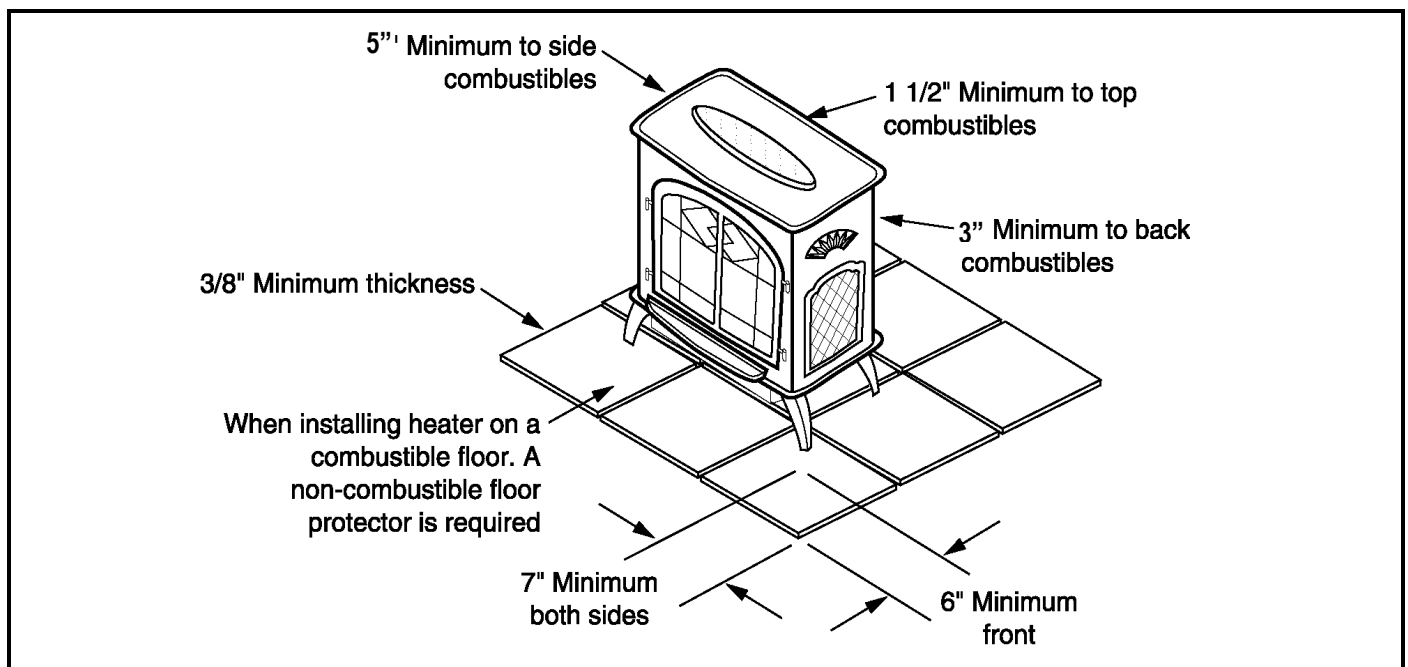

FIGURE 3
4. A non-combustible hearth pad must be used if installed on a carpet, wood floor, or other combustible material (see Figure 3). Maintain 6" (152mm) beyond the front and beyond each side of the fuel loading and ash removal opening.
5. Keep front door of appliance thirty-six (36) inches from combustibles (drapery, furniture).